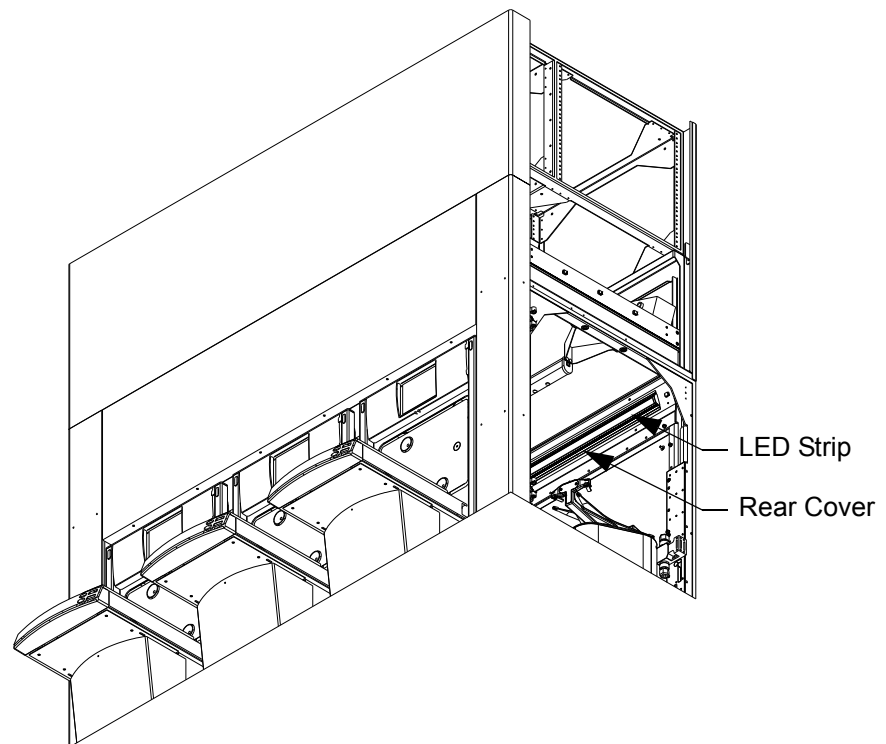

Figure 8-5: Remove LED Light Strip
11. Remove the sheet metal panel that holds the LED Service Light. See Figure 8-5.